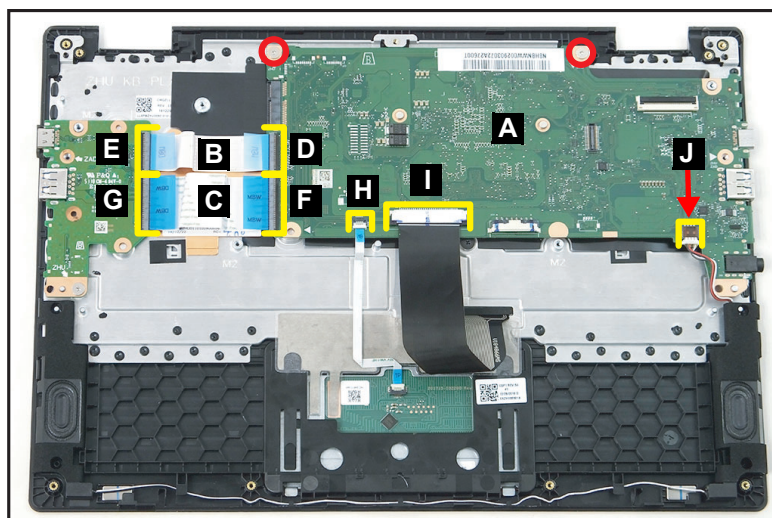

Figure 1-26. Mainboard Removal
1. Find the mainboard (A) on the top assembly (Figure 1-26).
2. Release the latch and disconnect the 30-pin USB board FFC (B) from the mainboard connector (D) and the USB board connector (E) (Figure 1-26).
3. Release the latch and disconnect the 40-pin USB board FFC (C) from the mainboard connector (F) and the USB board connector (G) (Figure 1-26).
4. Release the latch and disconnect the touchpad FFC from the mainboard connector (H) (Figure 1-26).
5. Release the latch and disconnect the keyboard FPC from the mainboard connector (I) (Figure 1-26).
6. Disconnect the speaker cable from the mainboard connector (J) (Figure 1-26).
7. Remove two (2) screws securing the mainboard in place (Figure 1-26).